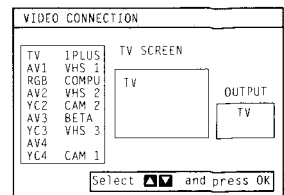

Fig. 44.
- 1 Select Video Connection with  $\Delta$ + or  $\nabla$ - and press OK. The VIDEO CONNECTION menu appears. (See Fig. 44)